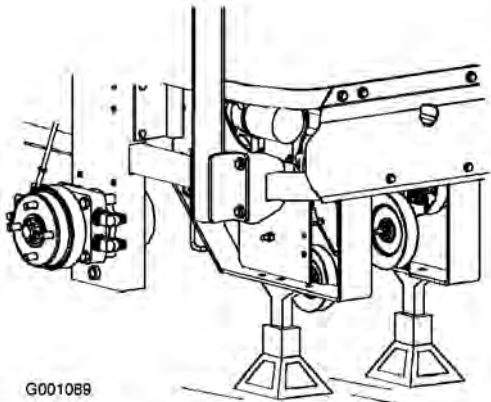

Figure 3
2. Raise the back of the machine up and support it with jack-stands (Figure 3).